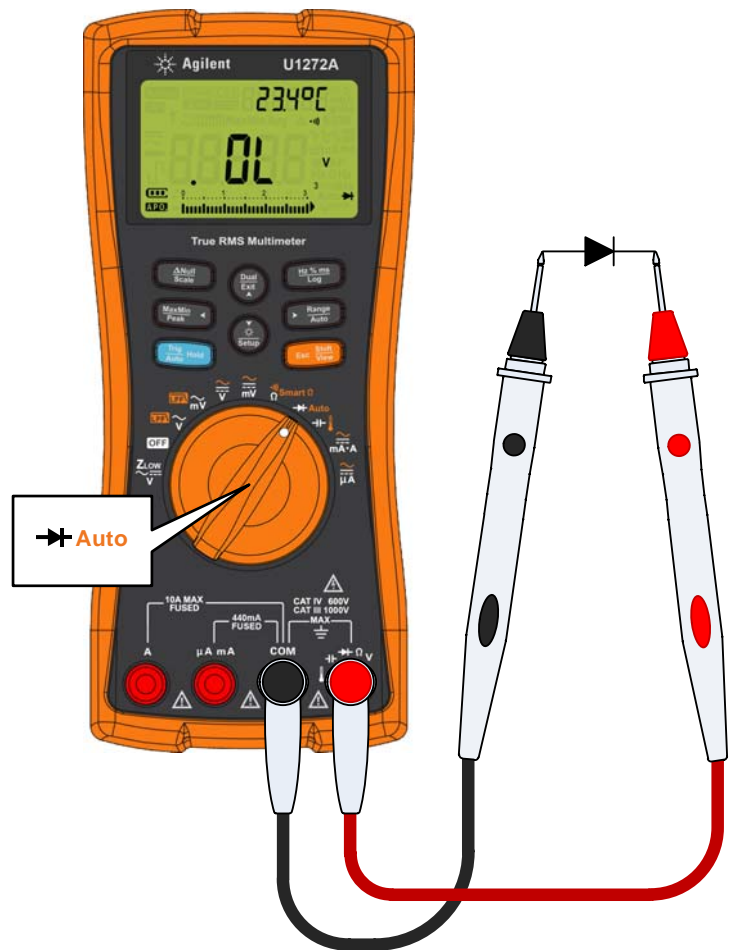

Figure 2-21 Testing reverse bias diode
- 3** Reverse the probes (as shown in Figure 2-21) and measure the voltage across the diode again. Assess the diode according to the following guidelines: